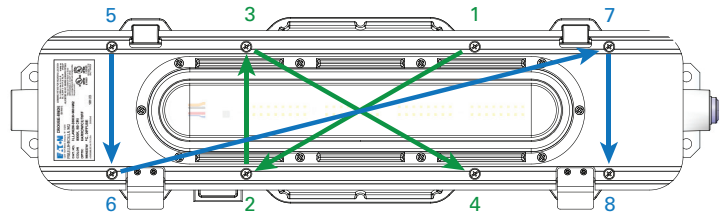

Figure 9. Driver Housing Screw Locations
2. To gain access to the luminaire input wiring connections loosen the eight (8) #10-32 x .75" stainless steel cover screws (see Figure 9) until screws are free from driver housing. Screws are a captive type and should not be fully removed from the light engine fitting assembly.
7. Re-install the light engine fitting and tighten all eight (8) cover mounting screws 23 in.-lbs. (2.6 N-m) using the bolting sequence directed in Figure 9. Verify that no luminaire wiring is pinched or trapped between light engine and driver housing. Start all screws prior to tightening.
6. Verify all wires are routed correctly and are fully contained in the driver housing without any wires being pinched when the light engine fitting is rotated back into position. Re-attach driver cover to luminaire driver housing using the bolt tightening sequence in Figure 9.